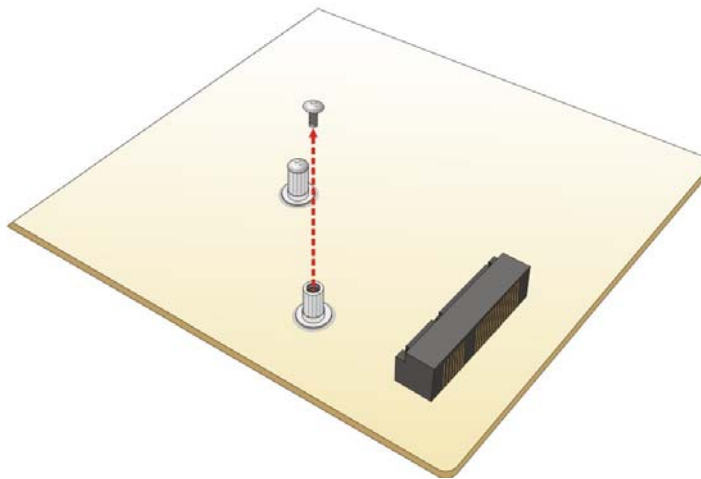

Figure 3-13: Removing the Screw
Step 3: Remove the retention screw. Remove the retention screw as shown in Figure 3-13.